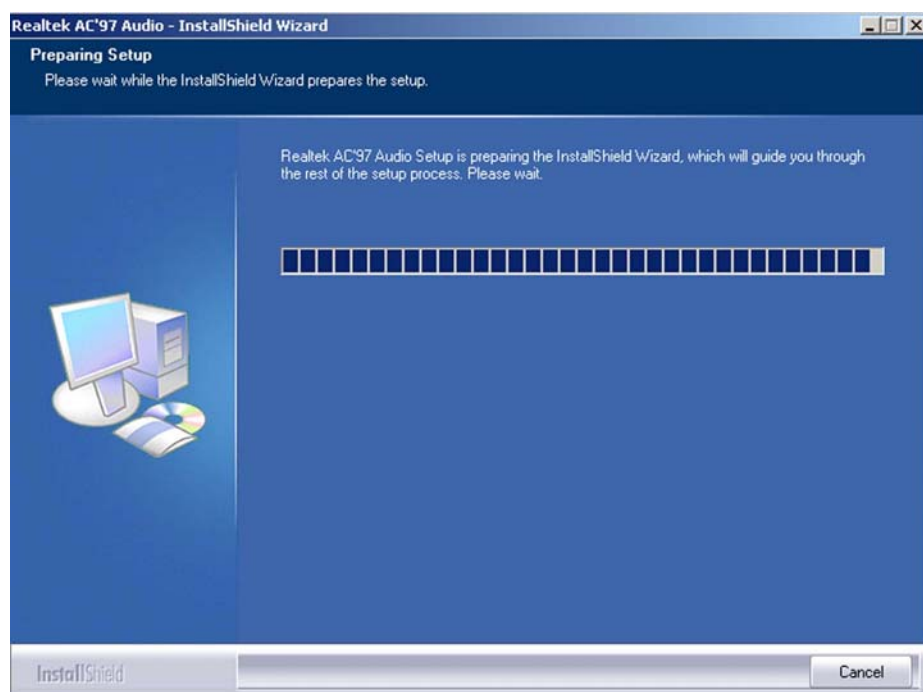

Figure 6-7: Audio Driver Setup Preparation
- Step 3:** The RealTek Audio Setup prepares the install shield to guide through the rest of the setup process. See **Figure 6-7**.